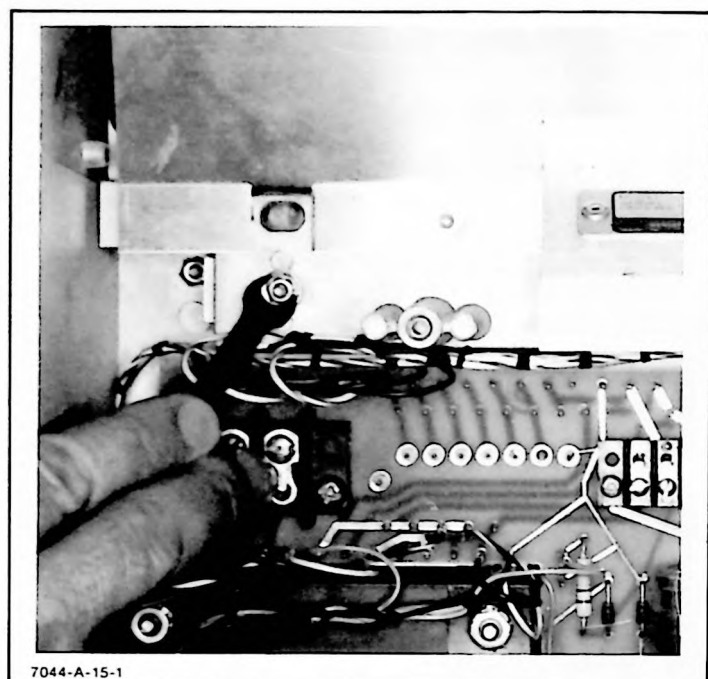

Figure 5-3. X-Axis Potentiometer Replacement
- Slide carriage arm to right side. Stand recorder on right side. Remove three nuts holding potentiometer from underside of recorder. See Figure 5-3.